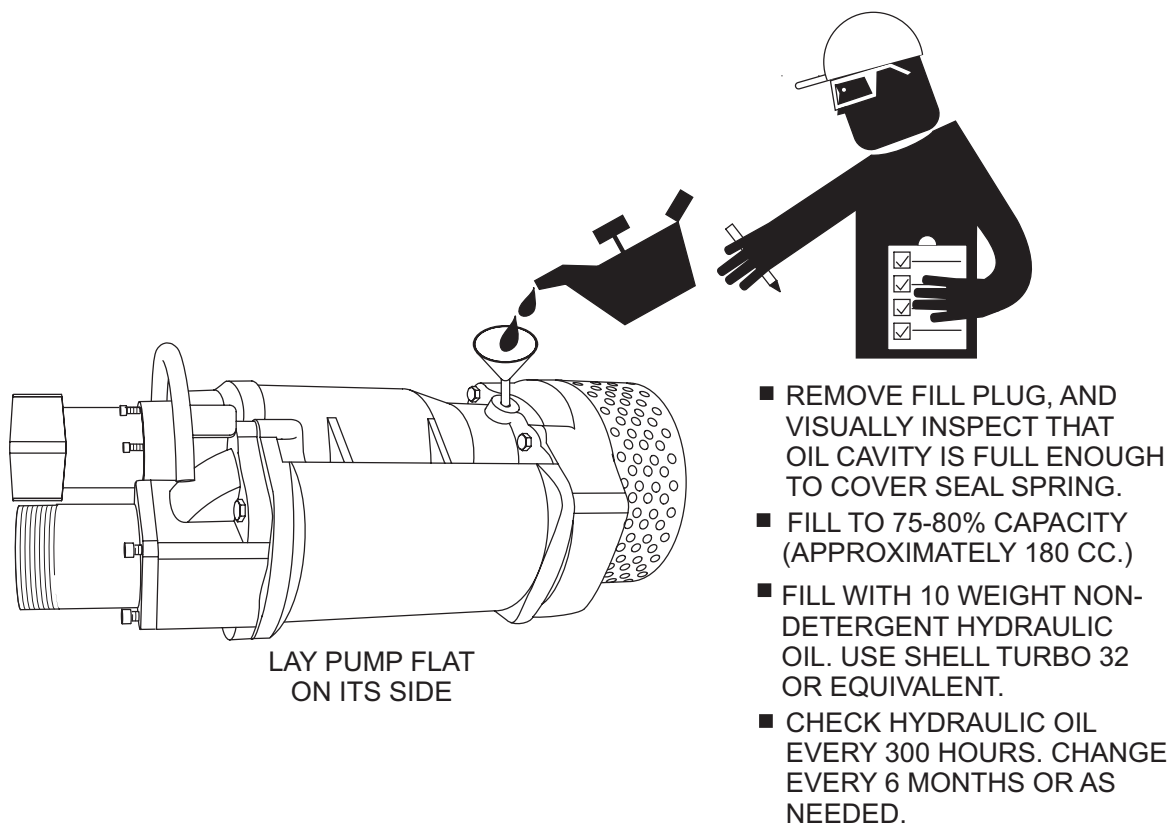

Figure 17. Checking Hydraulic Oil
1. Lay the pump (Figure 17) on its side with the oil plug facing upwards.